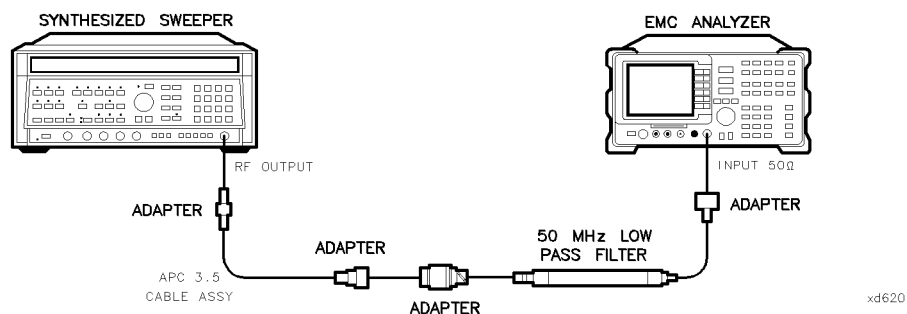

Figure 2-45. Second Harmonic Distortion Test Setup, HP 8594EM
2. Connect the equipment as shown in Figure 2-45.